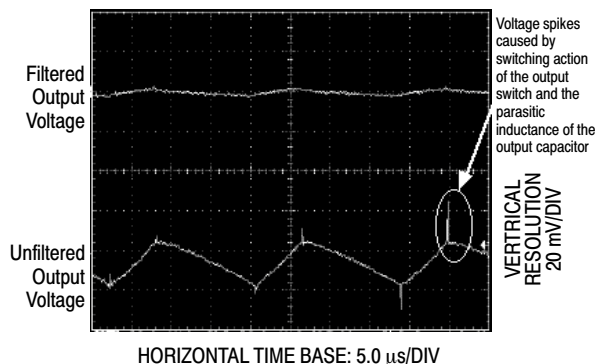

Figure 25. Output Ripple Voltage Waveforms
4. Inductor Selection (L1) A. Use the following formula to calculate the inductor Volt x microsecond [V x μs] constant: $E \times T = \left(V_{in} - V_{out} \right) \frac{V_{out}}{V_{in}} \times \frac{10^6}{F[\text{Hz}]} [V \times \mu\text{s}]$ B. Match the calculated E x T value with the corresponding number on the vertical axis of the Inductor Value Selection Guide shown in Figure 22. This E x T constant is a measure of the energy handling capability of an inductor and is dependent upon the type of core, the core area, the number of turns, and the duty cycle. C. Next step is to identify the inductance region intersected by the E x T value and the maximum load current value on the horizontal axis shown in Figure 25. D. From the inductor code, identify the inductor value. Then select an appropriate inductor from Table 2. The inductor chosen must be rated for a switching frequency of 52 kHz and for a current rating of $1.15 \times I_{Load}$. The inductor current rating can also be determined by calculating the inductor peak current: $I_{p(\text{max})} = I_{Load(\text{max})} + \frac{(V_{in} - V_{out}) t_{on}}{2L}$ where t_{on} is the "on" time of the power switch and $t_{on} = \frac{V_{out}}{V_{in}} \times \frac{1.0}{f_{osc}}$ For additional information about the inductor, see the inductor section in the "External Components" section of this data sheet.	4. Inductor Selection (L1) A. Calculate E x T [V x μs] constant: $E \times T = (25 - 8.0) \times \frac{8.0}{25} \times \frac{1000}{52} = 80 [V \times \mu\text{s}]$ B. E x T = 80 [V x μs] C. $I_{Load(\text{max})} = 2.5 \text{ A}$ Inductance Region = H150 D. Proper inductor value = 150 μH Choose the inductor from Table 2.
The regulator output voltage may also contain short voltage spikes at the peaks of the sawtooth waveform (see Figure 25). These voltage spikes are present because of the fast switching action of the output switch, and the parasitic inductance of the output filter capacitor. There are some other important factors such as wiring inductance, stray capacitance, as well as the scope probe used to evaluate these transients, all these contribute to the amplitude of these spikes. To minimize these voltage spikes, low inductance capacitors should be used, and their lead lengths must be kept short. The importance of quality printed circuit board layout design should also be highlighted.
In order to minimize the output ripple voltage it is possible to enlarge the inductance value of the inductor L1 and/or to use a larger value output capacitor. There is also another way to smooth the output by means of an additional LC filter (20 μ H, 100 μ F), that can be added to the output (see Figure 34) to further reduce the amount of output ripple and transients. With such a filter it is possible to reduce the output ripple voltage transients 10 times or more. Figure 25 shows the difference between filtered and unfiltered output waveforms of the regulator shown in Figure 34.